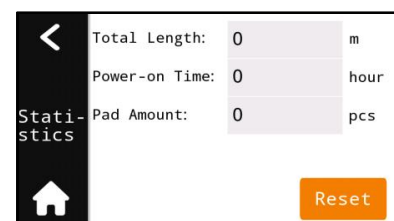

Figure 6
1) Tap in the homepage to enter this page. (Figure 6).